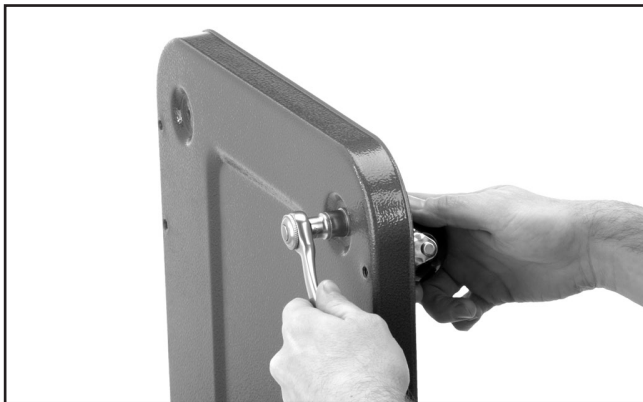

Figure 6. Installing casters.
2. Install the the casters with the four $\frac{5}{16}$ "-18 acorn nuts and washers. (see **Figure 6**).